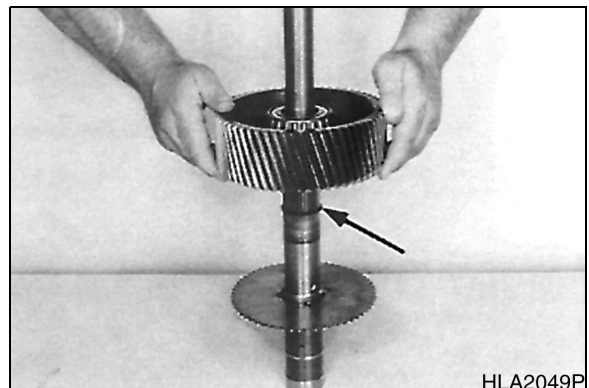

Figure 85
3. Separate spur gear from shaft and remove snap ring (Figure 85).